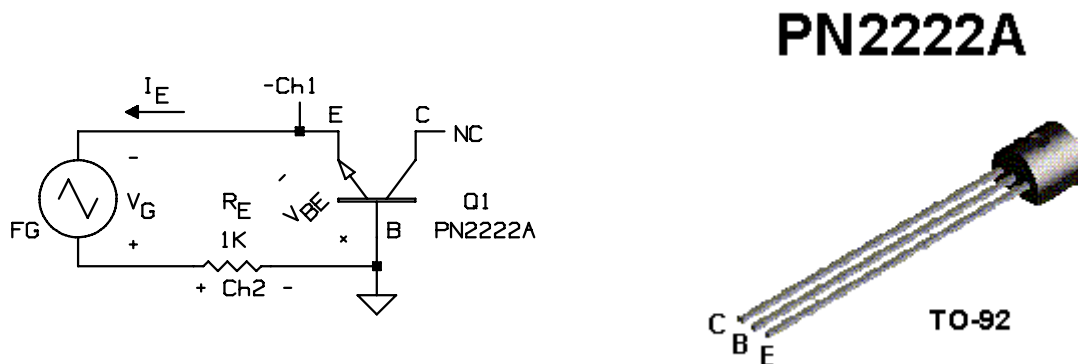

Fig. 1. Emitter junction characteristics of the PN2222A npn transistor.
Connect the circuit of Fig. 1. "NC" means "not connected." The PN2222A is supplied in the industry-standard package "TO-92," shown in the figure. Note that the inputs to channels 1 and 2 of the DSO are indicated, with the ground point shown. The FG must have a floating output because neither of its output connections is grounded. The FG output cable center conductor is "+", and its shield braid is "-" in Fig. 1. This is normally assumed, and will cause agreement with the signs given in this procedure for the FG offset voltage.
1. Set the FG for a 100-Hz 2-Vpp triangle wave with -1 V of offset. Note that its output connections are reversed relative to Fig. 1.
2. The procedure for Fig. 1 examined the forward and reverse characteristics for the E-B junction alone. Describe your results. Are the forward E-B characteristics completely independent of the reverse-bias conditions which may exist on the C-B junction?